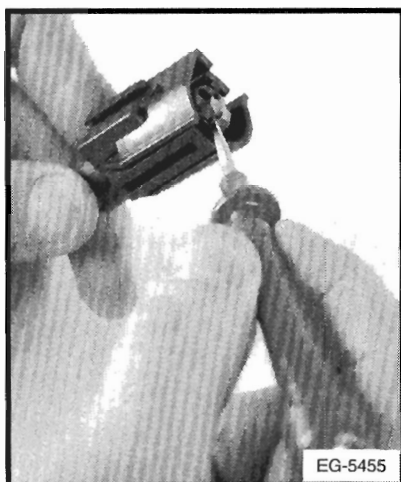

Figure 6-20. – Remove Lock Wedge
1. Using the appropriate tool, pry the connector lock out of the connector body from the mating end and remove the lock from the connector (Figure 6-20).